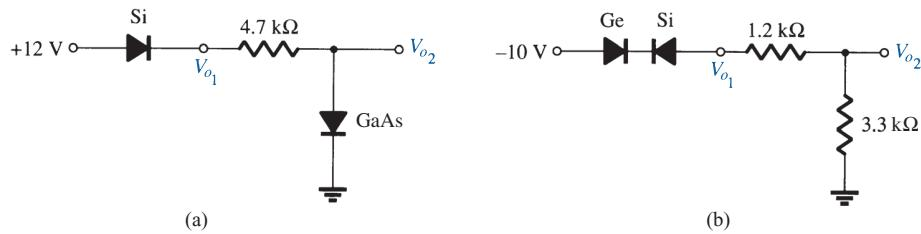

FIG. 159
*9. Determine V_{o1} and V_{o2} for the networks of Fig. 159.